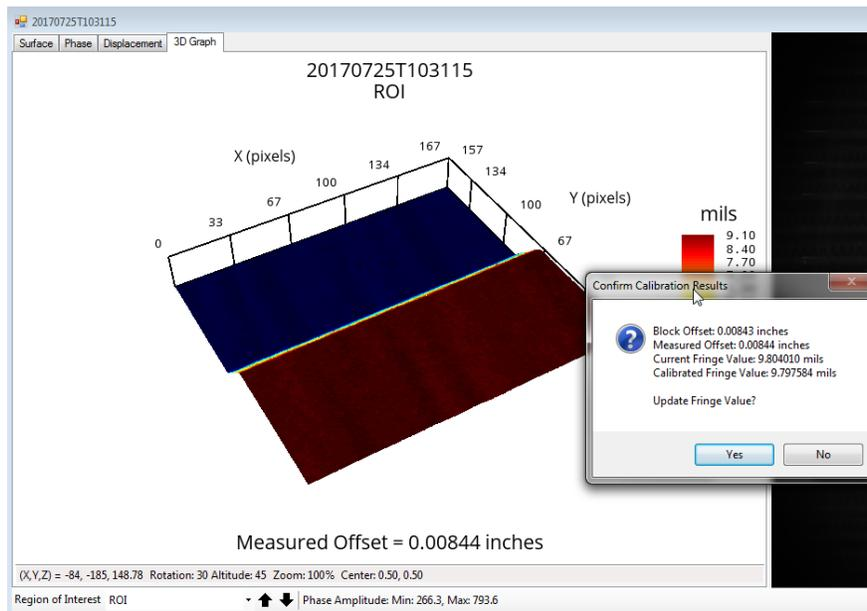

Figure 2.41 Fringe Value Result
- Right click within the ROI and click **Acquire...** The calibration process is initiated and a result window pops up afterward (Figure 2.41), showing the user entered value, the measured value, the old Fringe Value, and the proposed new Fringe Value.